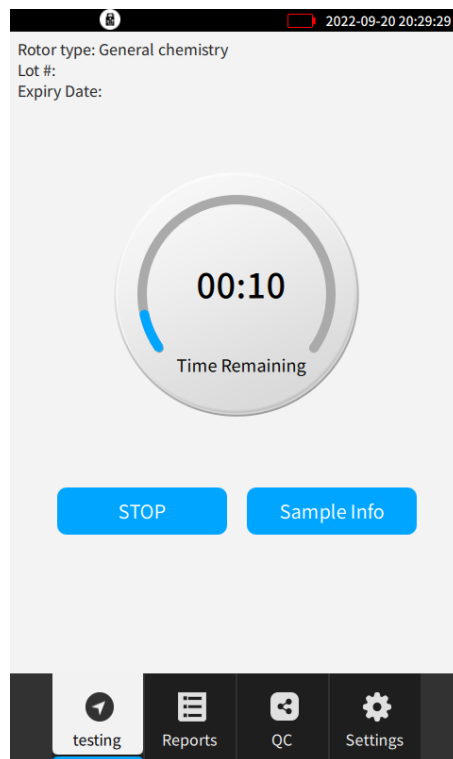

Figure 4-2
4) Place the reagent card that has been added to the sample in the reagent card slot, and click [Start Test] to enter the interface shown in Figure 4-2